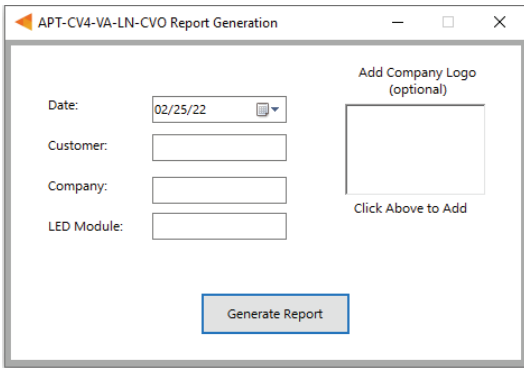

Figure 16: Report Generation window
- 1 Select **File > Generate Report**, or press **Ctrl+R**, to open the Report Generation Window (shown in Figure 16).